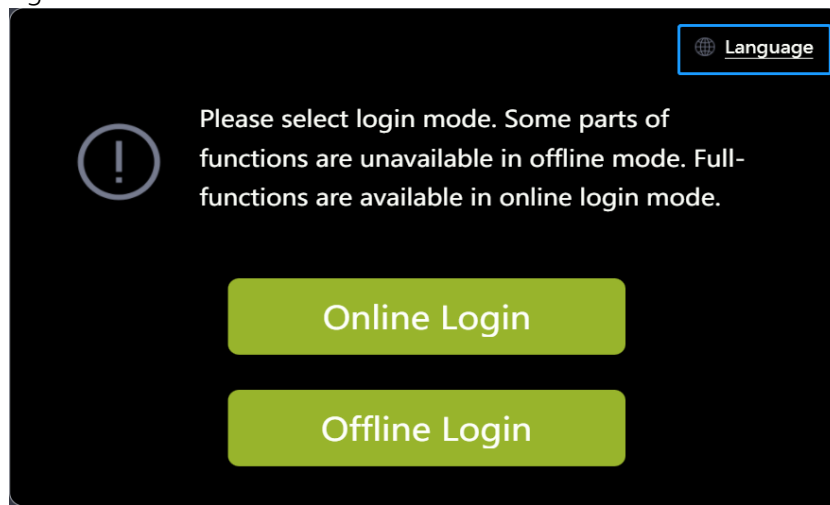
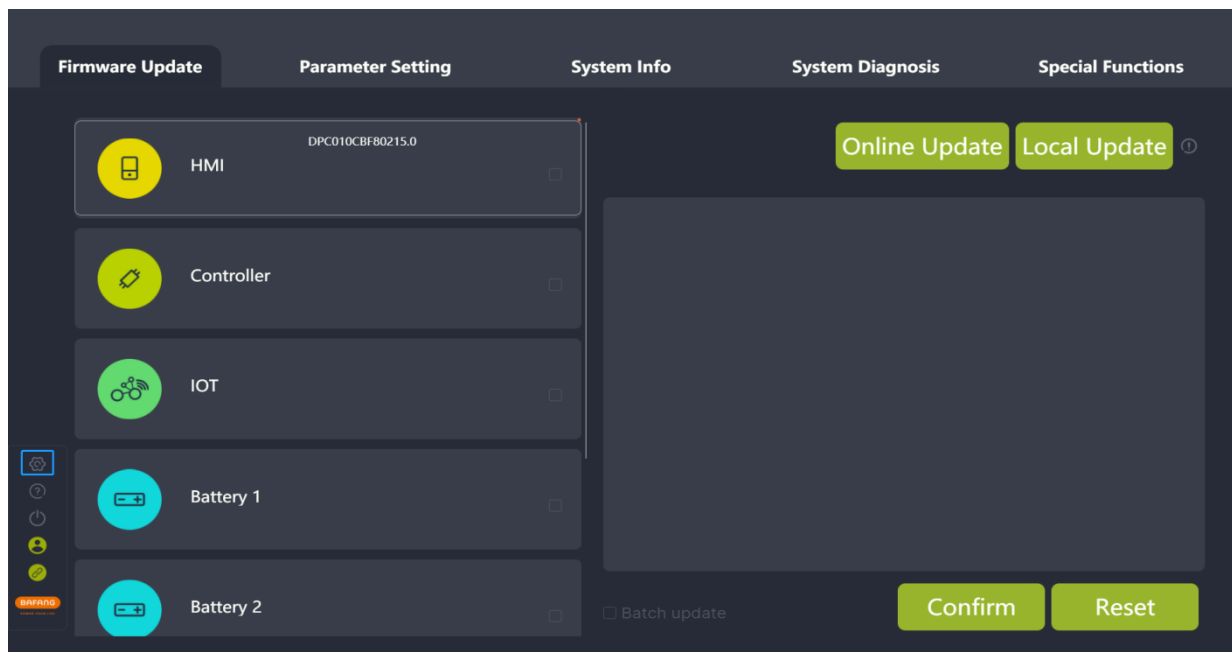

Fig. 9-1 Language
Fig. 9-2 Language
- (1) Set the language in the right corner of the Login interface (as shown in Fig.9-1) or select the "Settings" icon on the left interface (as shown in Fig.9-2).
- (2) Select the desired language in the drop-down list.
- (3) Click the "Restart" icon. Restart the software and the selected language will take effect.